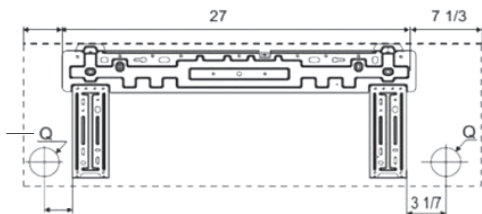

Fig. 6 – 09 and 12K Mounting Plate Spacing
2. The mounting plate should be located horizontally and level on the wall. All minimum spacings shown in Fig. 6.